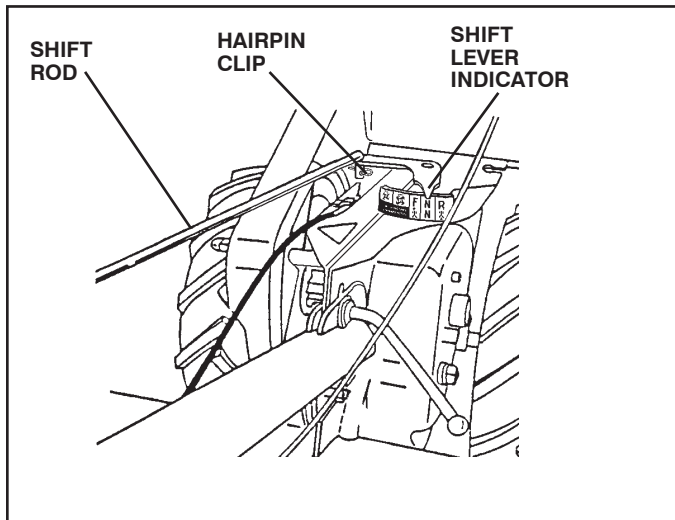

FIG. 7
## CONNECT SHIFT ROD (See Fig. 7)
- Make sure shift lever indicator is in "N" position (See Fig. 7)